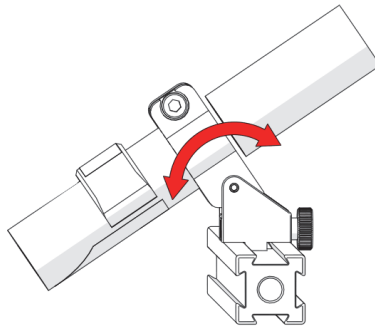

Figure 2-67 Aim guide
3. Adjust the laser guide's friction pivot to aim the guide as required (see Figure 2-67 on page 92).